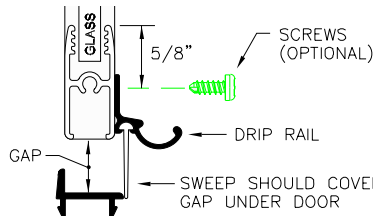
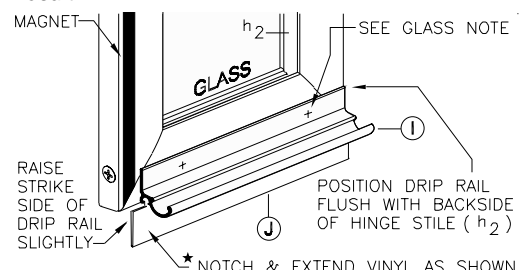

figure 8
figure 7
14.\*Notch and extend Vinyl Sweep (J) pass Drip Rail edge as shown in figure 7. Attach Drip Plugs (I) onto Drip Rail (see exploded view - sheet 1), be sure to remove the knockout on the hinge side drip plug so the water will drain. Clean bottom rail of door with alcohol to remove any oil. Failure to clean door rail prior to installation of Drip Rail (I) may cause tape to release. Remove backing from tape and position Drip Rail flush with backside of Hinge Stile (h2) as shown in figure 7. Sweep should cover gap at bottom of Door as shown in figure 8. Slightly elevate Drip Rail at strike side prior to securing to create a sloping effect.